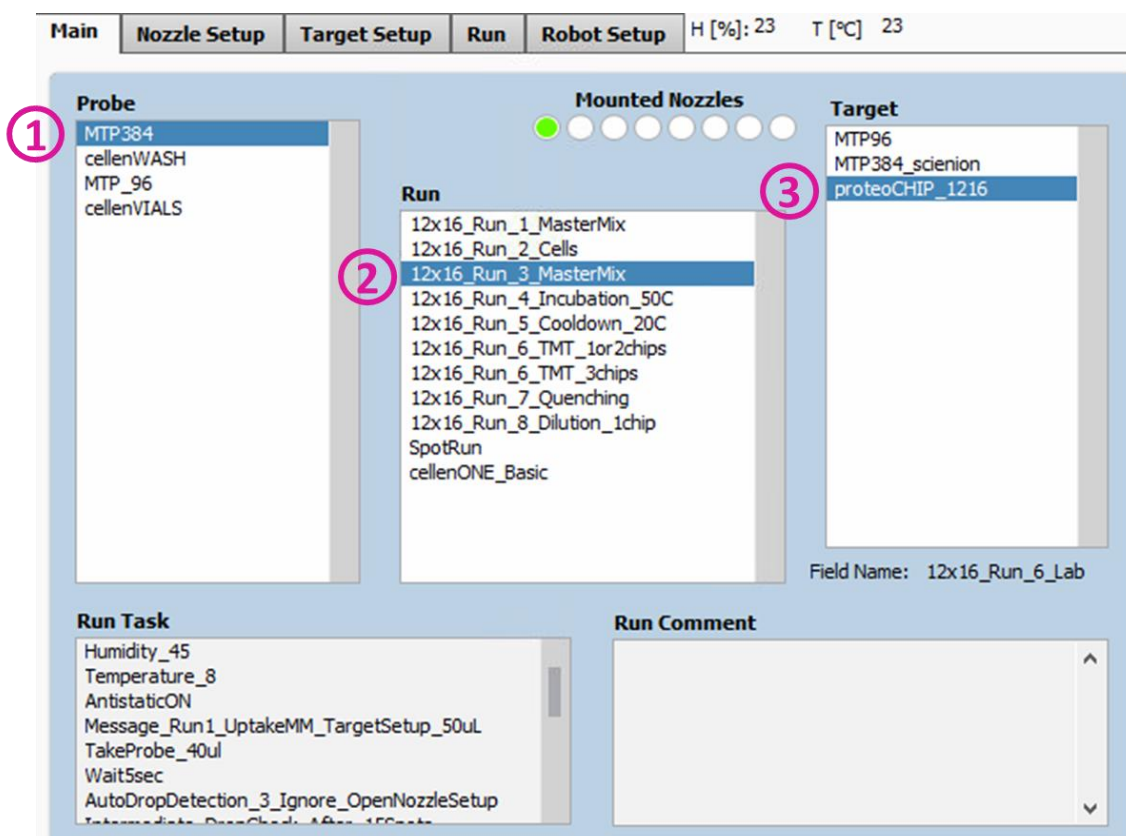

Figure 26: Master Mix Run 3 selection
- Probe: Select the “MTP384” (Figure 26 ①).
- Run: Select “12x16_Run_3_MasterMix” (Figure 26 ②).
- Target: Select “proteoCHIP_1216” (Figure 26 ③).